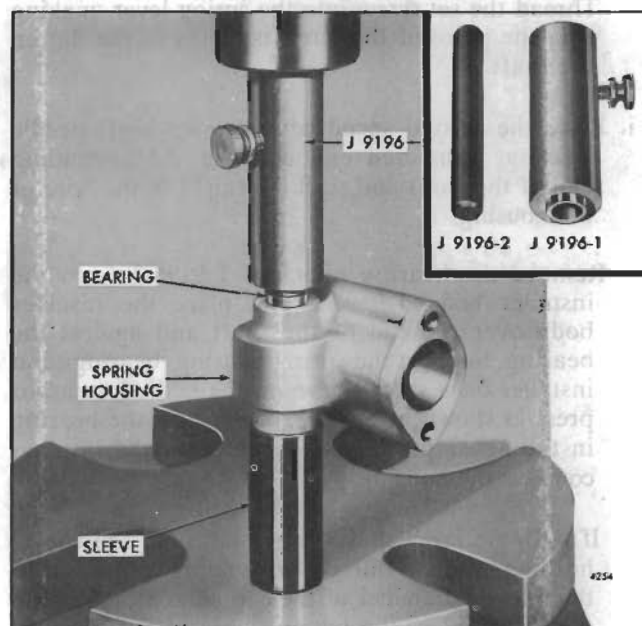

Fig. 22 - Installing Speed Control Shaft Bearings in Spring Housing
- c. Place the pilot rod end of the bearing installer assembly in the bearing. Support the spring housing, bearing and installer on a short sleeve on the bed of an arbor press as shown in Fig. 22. Then press the bearing in the housing until the shoulder on the installer contacts the housing.
- j. Remove the bearing pilot rod J 9196-2 from the installer body J 9196-1 and place the installer body over the end of the shaft and against the bearing. Support the spring housing, bearings and installer on a short sleeve on the bed of an arbor press as shown in Fig. 22. Then press the bearing in the housing until the shoulder on the installer contacts the housing.